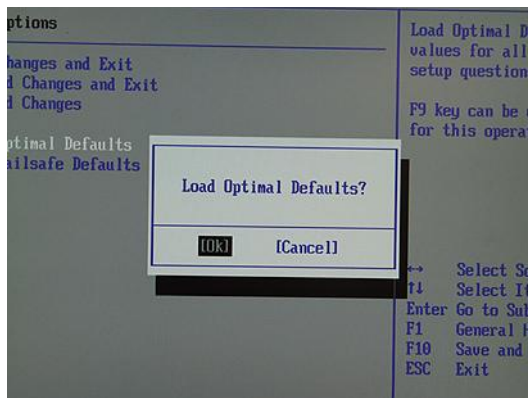

Figure B-3
- 4) Press the <Enter> key to select this item. You will be presented with a confirmation screen as shown in Figure B-3.